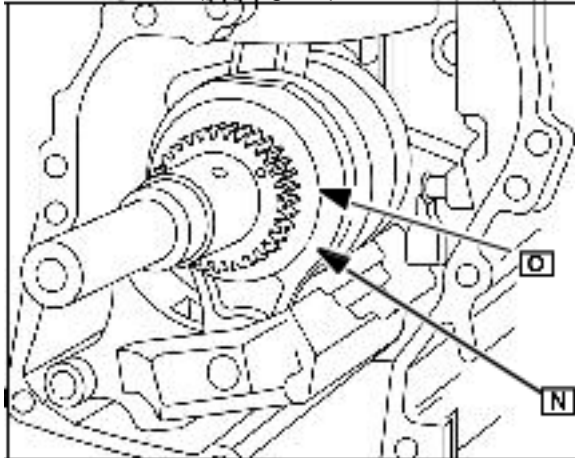

Fig. 14
Install counterweight assembly into cylinder and slide link (N) on to crankshaft eccentric (O) Fig. 14).